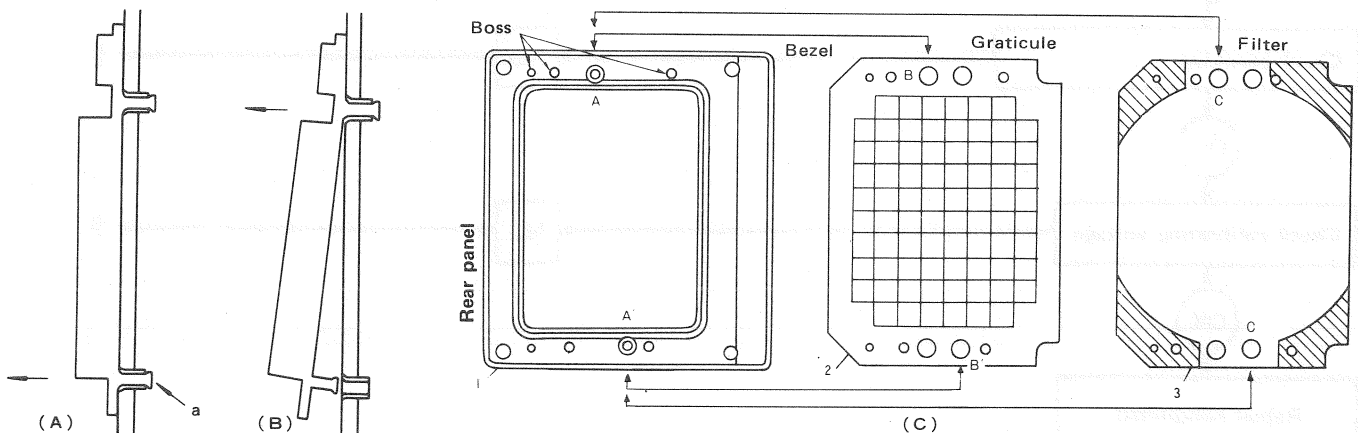

Fig. 3 Removing the Bezel
## REMOVING THE BEZEL (Refer to Fig. 3)
Since the bezel is mounted on the case through the four mold legs on its back, it can directly be removed without using any tool. However, the mold legs may be broken if unreasonable force is exerted on them carelessly. As shown in Fig. 3 (A), remove the two legs on the bottom side first. (They should be loosened so that the swelling part a of each leg's tip is unlocked as shown in Fig. 3 (B).) Then the remaining two legs on the top side can be dismantled. In dismantling these legs, only vertical force should be exerted always against the panel surface.
When mounting the bezel 1 on the case, as shown in Fig. 3 (C), get the two holes B and B' of the graticule 2 engaged with the two bosses A and A' of the bezel 1. Then get them engaged with the two holes C and C' of the filter 3.